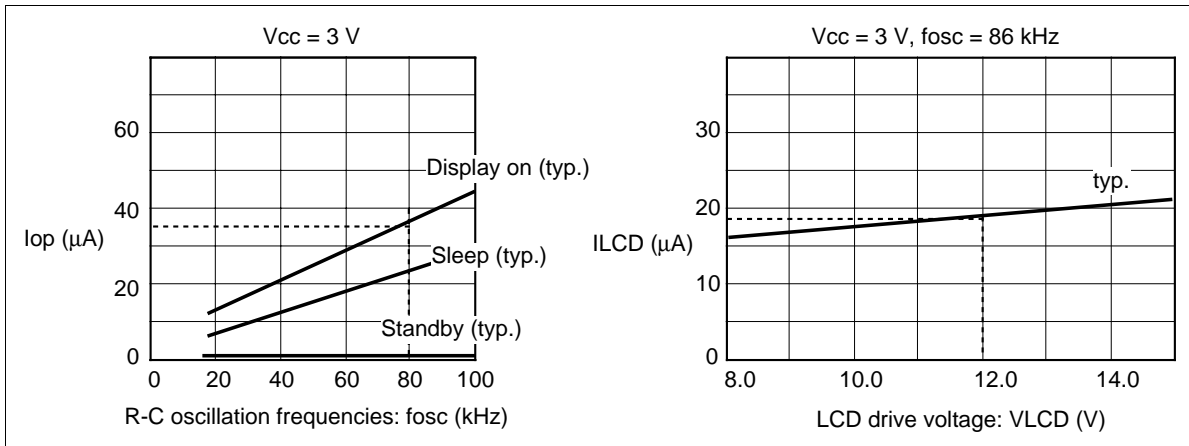

Figure 70 Relationship between the Operation Frequency and Current Consumption
8. The following shows the relationship between the operation frequency (f_{osc}) and current consumption (I_{cc}) (figure 70).